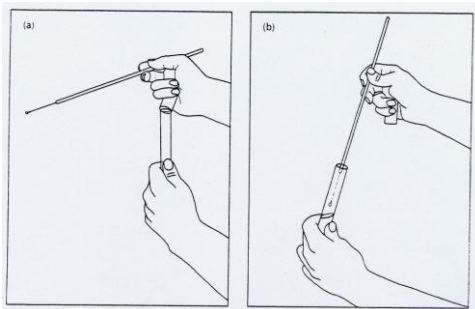

Figure 2
- During transfer, hold the tube in the left hand and hold the plug or cap between the fingers of the right hand. Caution: Never lay a plug or cap down! Hold the tube as nearly horizontal as feasible during transfer and do not leave it open longer than necessary. The mouths of the tube from which culture is taken should also be passed through the flame immediately before and after the needle is introduced and removed. Same procedure for the tube into which the cultures are transferred. **Check Figure 2.**